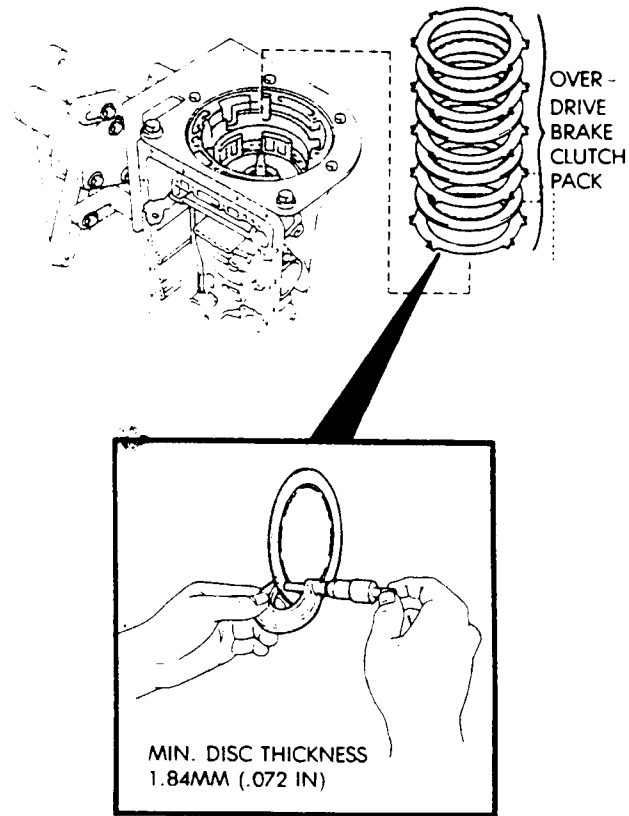

**Fig. 21 Remove Overdrive Brake Snap Ring**
(29) Remove overdrive brake snap ring (Fig. 21).